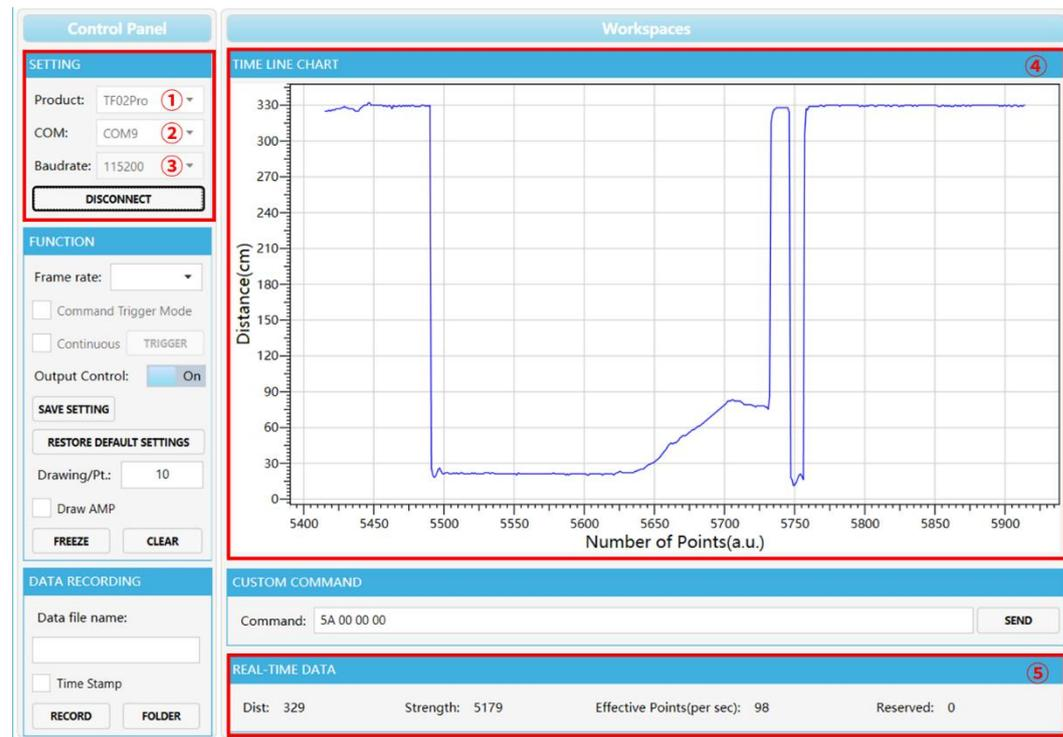

Figure 5-2 TFDS software interface and display
Run the BW_TFDS software, select "① TF02-Pro" and select automatically recognized communication port (here it is "② COM9"), choose the right baud rate (here it is "③ 115200"), as shown in Figure 5-2.